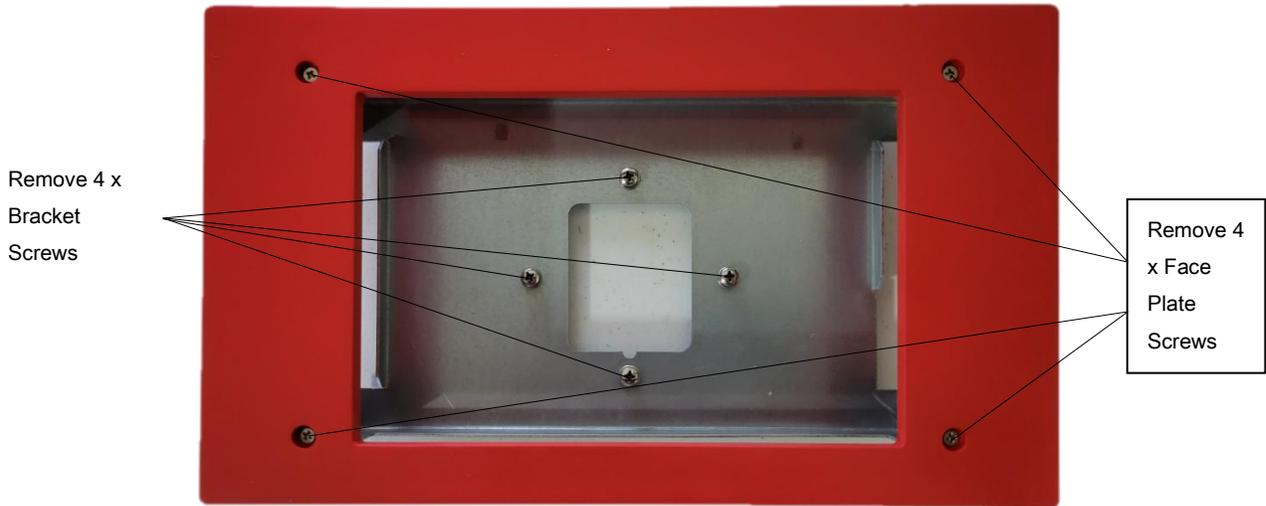

Figure 33: APV3-DAS - Flush Mount Kit Face Plate and Bracket Screw Removal
Follow the instructions below, and see Figures 33 through 36, to flush mount the APV3-DAS:
- Remove the (4) Philips head screws holding the faceplate to the mounting bracket. Do not discard screws as these will be used to reinstall the face plate. Remove the face plate.
- Remove the (4) screws that are attached to the mounting bracket from the factory. These screws will be used in the next step to attach the APV3-DAS standard mounting bracket to the flush mount bracket. See Figure 33 below.